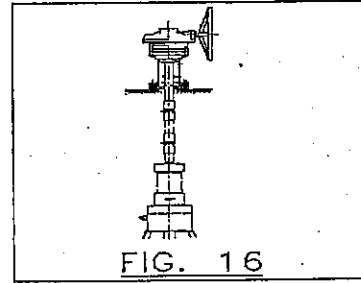

FIG. 16
- *Figure 16* ► it represents an extension stem and platform.